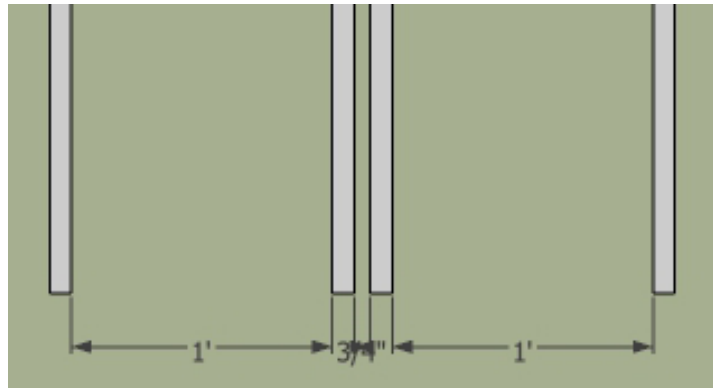
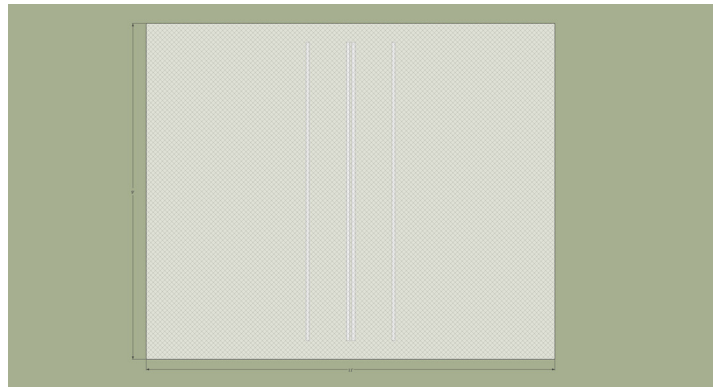

Figure 7 PVC trim board layout
Figure 8 Lay out 9' x 11' netting
7. Netting: Working on a large clear space of ground, lay out (4) of the PVC trim boards as shown (Figure 7). Center the bird netting over the PVC trim boards and staple the netting to the boards about every 6" along the length of the boards. Trim the netting down to approximately 9' x 11' as shown (Figure 8).